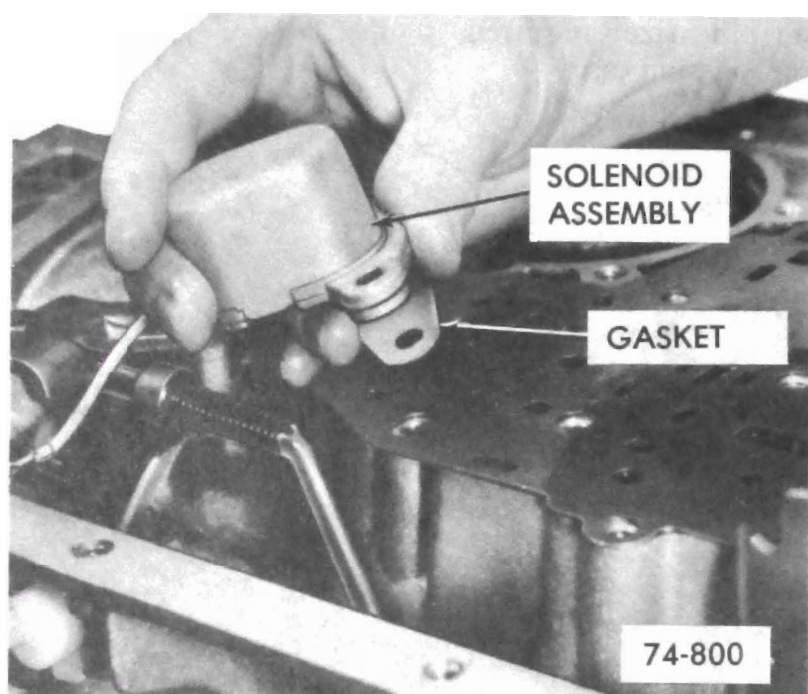

Figure 76-69
6. Remove detent solenoid attaching bolts, solenoid assembly, and gasket. If the transmission is in the vehicle, be careful when the detent solenoid is removed, as it prevents the spacer plate and gasket and check balls from dropping down. See Figure 76-69.